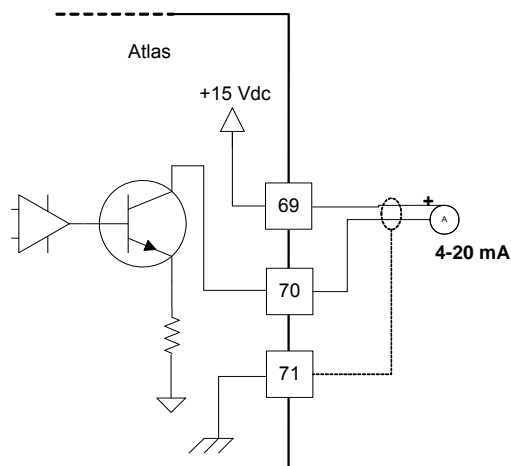

Figure 4-12. Example–Analog Output Interface, SmartCore CPU A5200
- Refer to Figure 4-12 for analog output wiring.